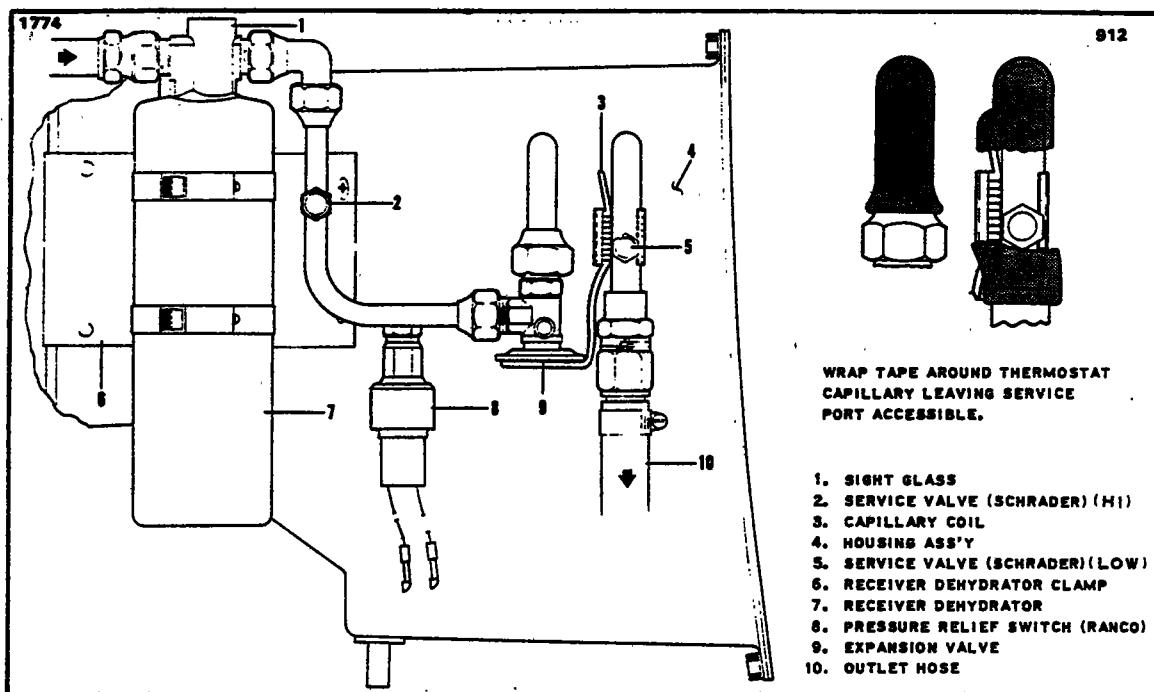

Figure 14-14. Components Installation
- h. Make and check electrical connections. (Refer to Figure 14-14.)